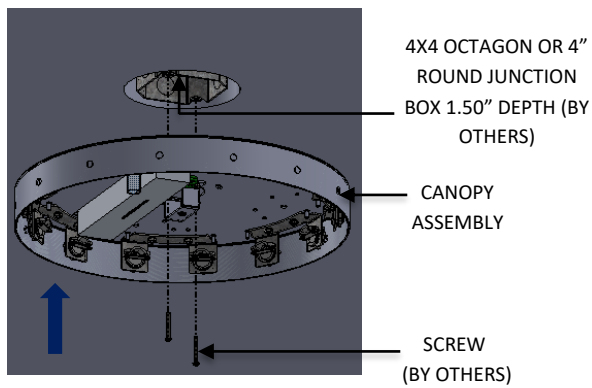
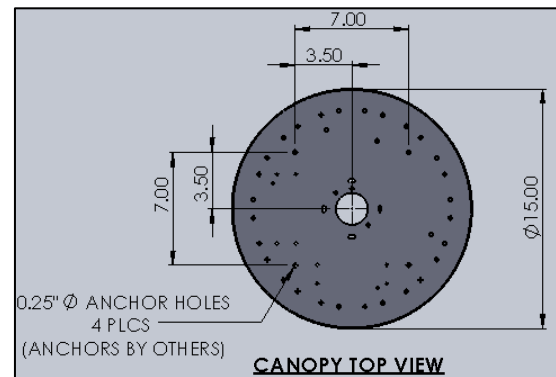

FIG. 8 – CANOPY ASSEMBLY
FIG. 9 – DETAIL SHOWING ANCHOR LOCATIONS
2. Attach CANOPY to JUNCTION BOX (by other) with SCREWS provided (by others) as shown below in FIG. 8. For 7 drop fixtures, J-BOX screws are sufficient, but for 14 drop fixtures, additional ANCHORS must be used, SEE DETAIL SHOWING ANCHOR LOCATION below as shown in FIG. 9.